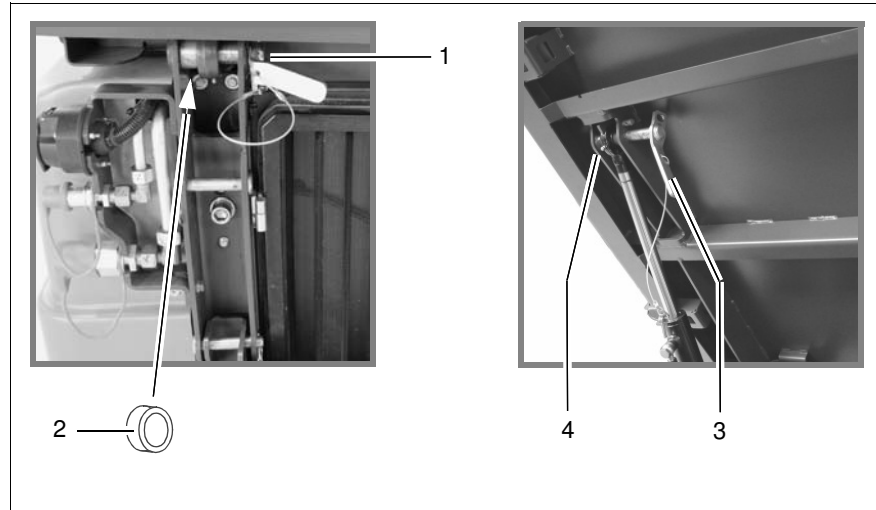

Fig.40
5. Using the cranks continue lowering the loading platform until the holes (Fig. 40/1) for the locking bolts are aligned.
6. Secure the loading platform with the locking bolts and spring locks. For this the bush (Fig. 40/2) (see enclosed package) has to be installed in such a way that the loading platform is aligned uniformly.
7. Manually fold open the loading platform and for safety insert the right lifting cylinder into the brace (Fig. 40/4).
8. Insert both locking bolts (Fig. 40/3) between the loading platform and the lifting cylinder and secure it with a linchpin.